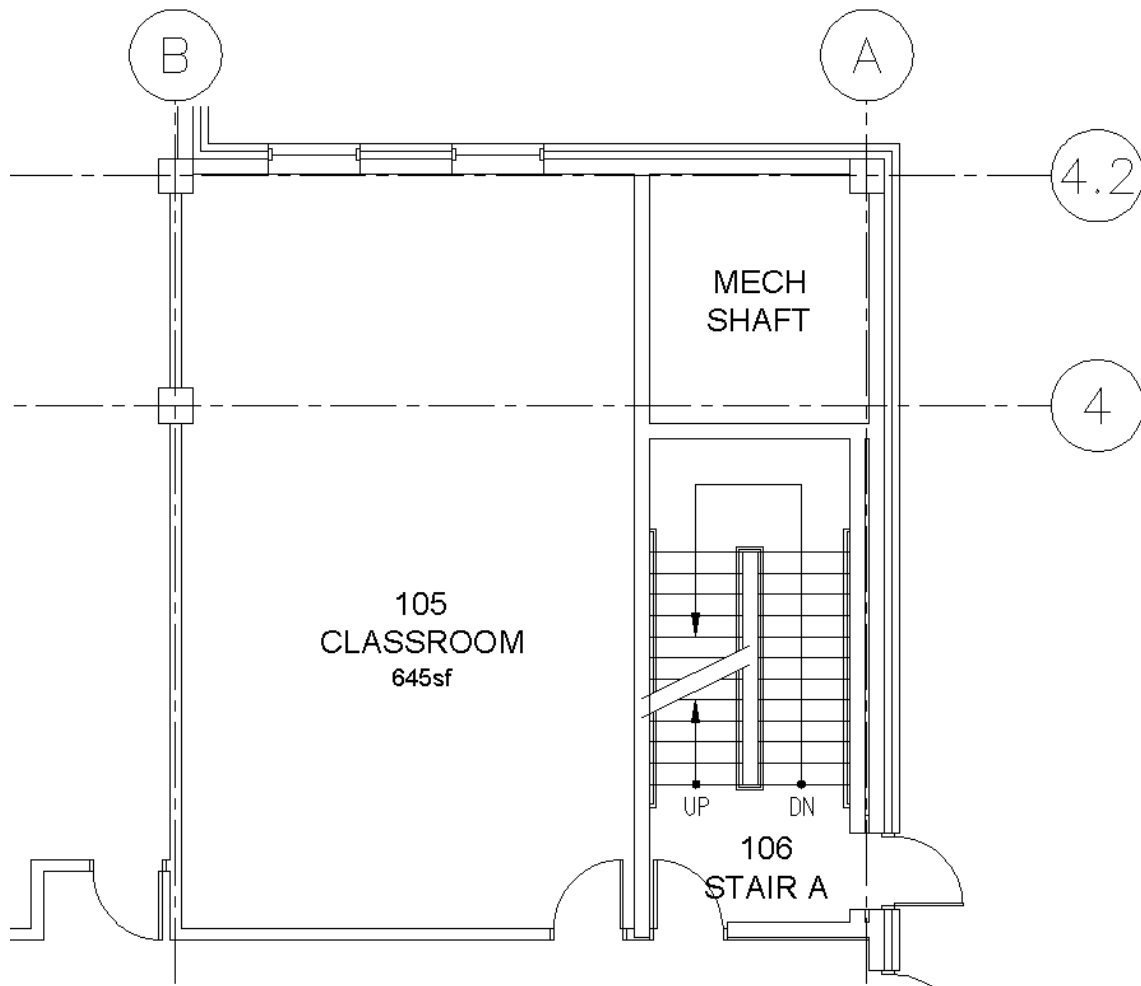
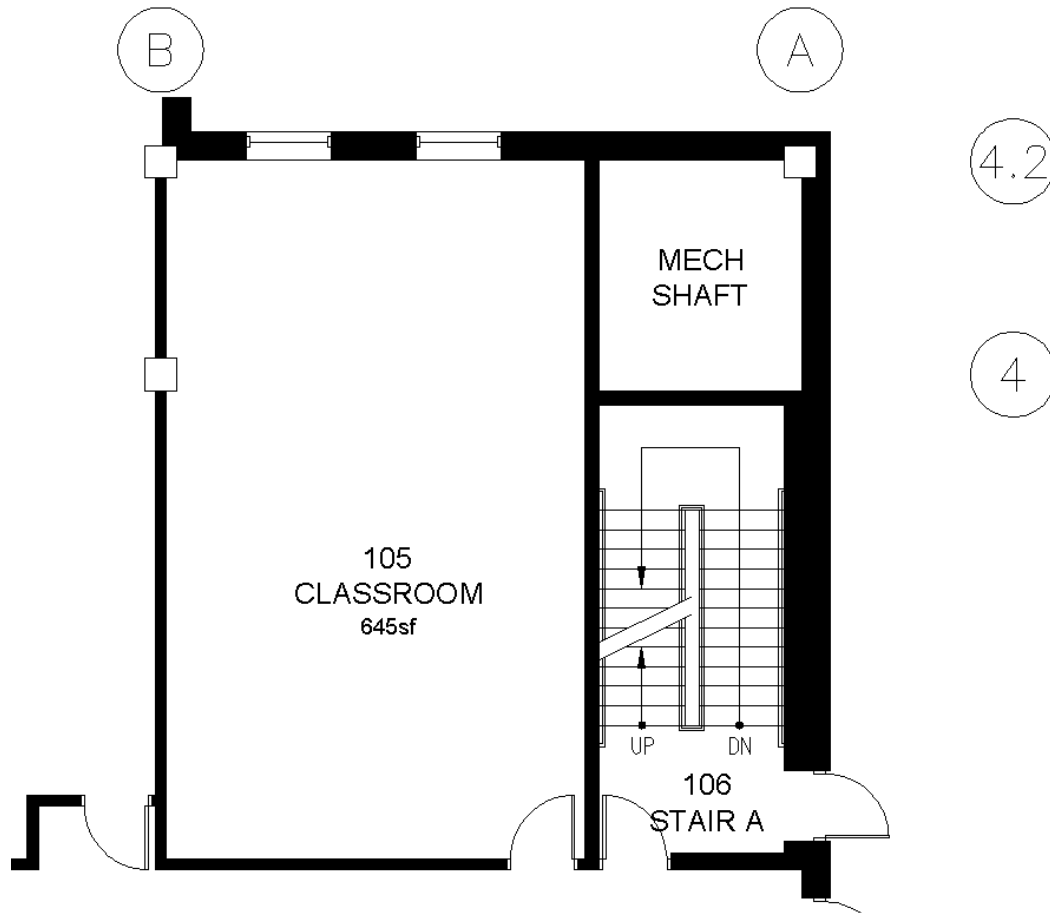

FIGURE 4-5.1 Plan view near east stair shaft
FIGURE 4-5.4 Plan view near east stair shaft with walls hatched
Looking at Figure 4-5.1 you can see it would take three picks just to *Hatch* the area between the two windows. Also, the grid lines bisect several walls which would require several extra picks as well. This is one of the main reasons for dividing things up onto separate *Layers*, so you can turn them off when they are not needed.
1. Using the *Layer Off* tool from the **Layers** panel (**Home** tab), turn off the grid lines and the wall cavity lines (Figure 4-5.1).
As you can see in Figure 4-5.4 the walls and window punch out very well compared to Figure 4-5.1. This is also true for items like casework and furniture; they read better!